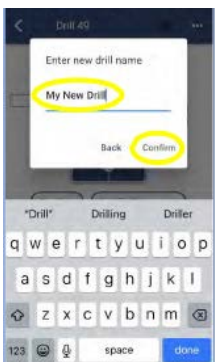

Figure 3-36
This will open a new window where you can enter a new Drill Name. (Figure 3-36)
3. Enter a new Drill Name (Example: My New Drill) and press the Confirm button. (Figure 3-36)